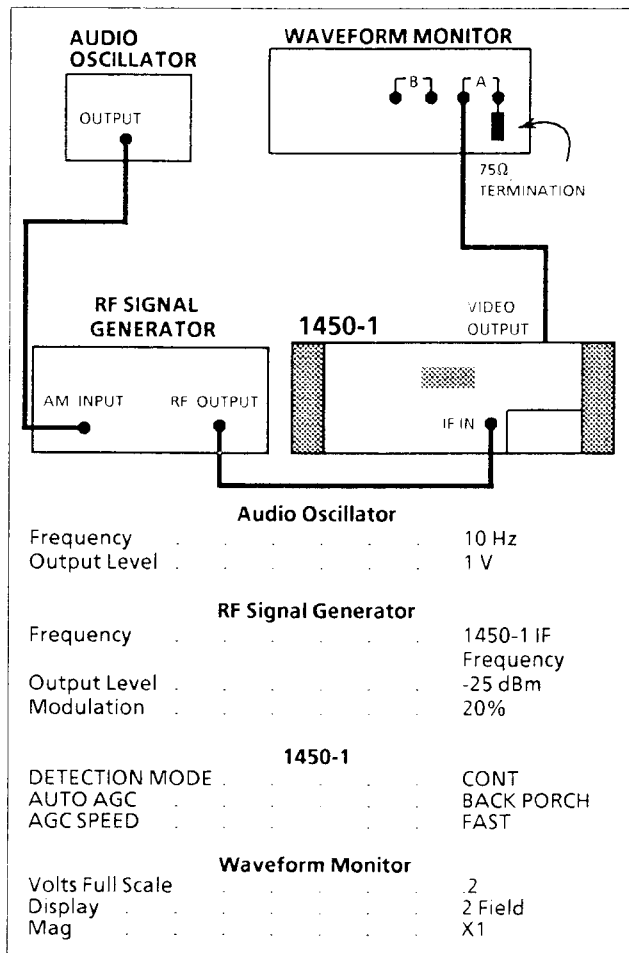

Fig. 4-8. Setup for checking AGC speed.
- a. Connect and set the test equipment as shown in Fig. 4-8.